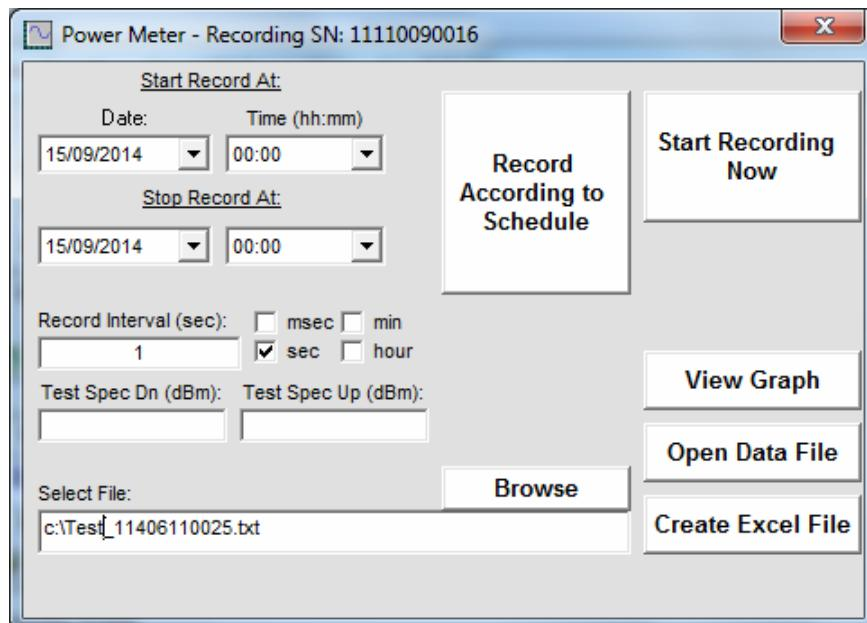

Figure 3.6: Data Record Window
3.6.1 **Left side of Screen (Fig. 3.6)**
3.6.2 **Right side of Screen (Fig. 3.6)**
Clicking on the 'View Graph' button in the data record window (Fig 3.6) will open a graphical presentation of the recorded data (Fig 3.6.3). Default presentation is of power only, using the same units as the data was recorded in, but user can select to present both power and temperature by checking 'Show temperature graph' or change the power units by clicking on the arrow next to the graph title.